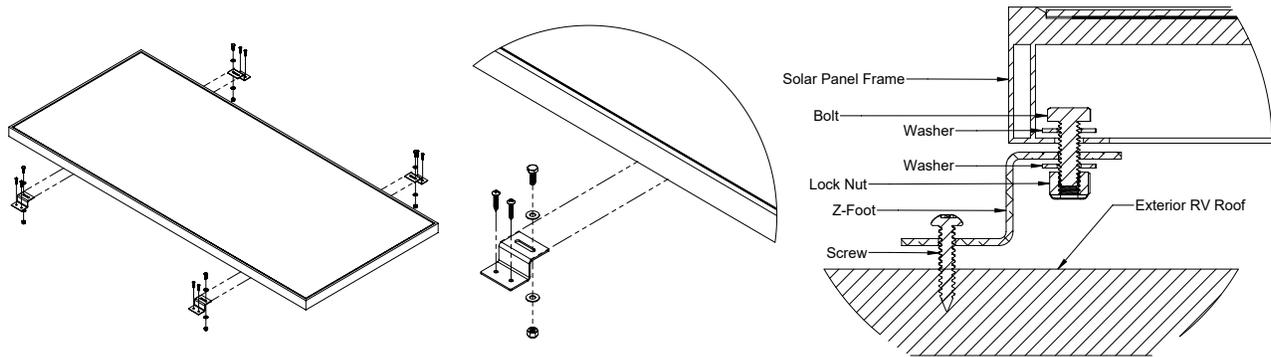

FIGURE 4-A: SOLAR PANEL INSTALLATION DETAILS
- Mark the location of the CEP cable hole to be drilled for feeding the cables through the RV roof. (See Figure 4-B)